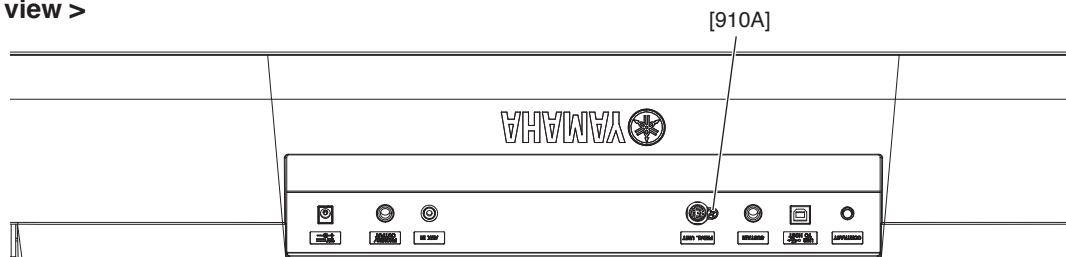

Fig.2
- 2-2 After removing the upper case assembly, remove the following screws. Each circuit board and assembly can then be removed. (Fig.2)(Table 1)
- *1 When assembling it, tighten the screw marked 1, 2 and other screws in this order. (Fig.2)
- *2 As for the screw at the location of A, it is tightened together with a cord holder. (Fig.2)
- *3 The PNR and the ENC circuit boards are connected with a board-in connector. (Fig.2)
- *4 As for the three (3) screws, they are tightened together with a bracket. (Fig.2)
- *5 The MKO circuit board is used as a flat cable holder. (Fig.2)
- *6 As for the screw at the location of B, it is tightened together with a cord holder. (Fig.2)